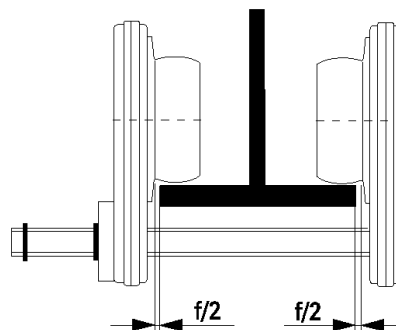

Figure 3-7 Trolley Hoist Clearances
- c. If the end of the runway beam is accessible, slide the trolley hoist onto the end of the runway beam. Check clearance f/2 (Figure 3-7 and Table 3-1). Adjust if necessary. (See Section 3.4.1 Step 6).